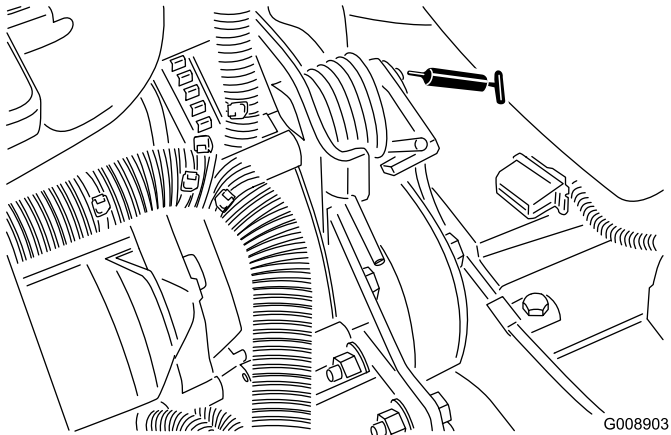

Figure 59
- Belt tension pivot (Figure 59)